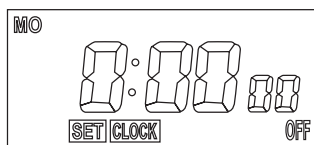
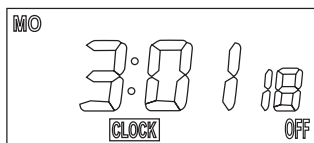

Figure 1
Figure 2
1. To enter the Clock Setting Mode, press the SET key in the Clock mode. The word SET will appear on the display and the field of *Weekday* will be flashing as in Figure 1.
4. Repeat Step (2) and (3) until all the data have been set.
6. When all data have been set, SET will disappear and the Controller will return to the Clock Display Mode as in Figure 2.